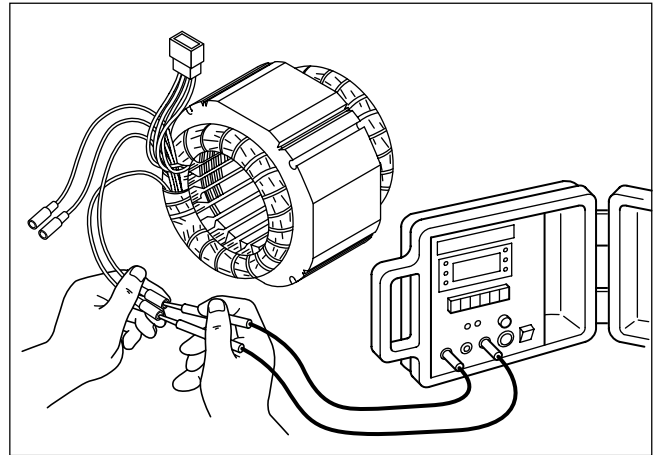

Fig. 11-1
- (1) Remove control panel and disconnect stator wires at the connectors.
- (2) Measure the resistance between terminals on stator leads. (See Fig.11-1) Refer to Table 9-1 of Section 9-4 STATOR for normal resistance. If stator is faulty, replace it with a new one.